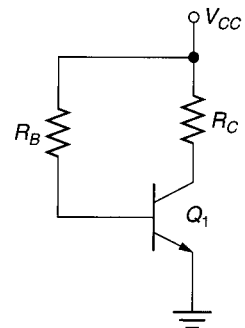

FIGURE 7.34
- The circuit shown in Figure 7.34 has values of  $V_{CC} = 8 \text{ V}$  and  $R_C = 3.3 \text{ k}\Omega$ . Plot the dc load line for the circuit.
- The circuit shown in Figure 7.34 has values of  $V_{CC} = 24 \text{ V}$  and  $R_C = 9.1 \text{ k}\Omega$ . Plot the dc load line for the circuit.
- The circuit shown in Figure 7.34 has values of  $V_{CC} = 14 \text{ V}$  and  $R_C = 1 \text{ k}\Omega$ . Plot its dc load line. Then, use equation (7.6) to verify the load line  $V_{CE}$  values for  $I_C = 2 \text{ mA}$ ,  $8 \text{ mA}$ , and  $10 \text{ mA}$ .
- The circuit shown in Figure 7.34 has values of  $V_{CC} = 20 \text{ V}$  and  $R_C = 2.4 \text{ k}\Omega$ . Plot its dc load line. Then, use equation (7.6) to verify the load line  $V_{CE}$  values for  $I_C = 1 \text{ mA}$ ,  $5 \text{ mA}$ , and  $7 \text{ mA}$ .
- The circuit shown in Figure 7.34 has values of  $V_{CC} = 8 \text{ V}$  and  $R_C = 1 \text{ k}\Omega$ . Plot the dc load line for the circuit. Then, use your dc load line to determine the midpoint-bias values of  $I_C$  and  $V_{CE}$ .
- The circuit shown in Figure 7.34 has values of  $V_{CC} = 36 \text{ V}$  and  $R_C = 36 \text{ k}\Omega$ . Plot the dc load line for the circuit. Then, use your dc load line to determine the midpoint-bias values of  $I_C$  and  $V_{CE}$ .